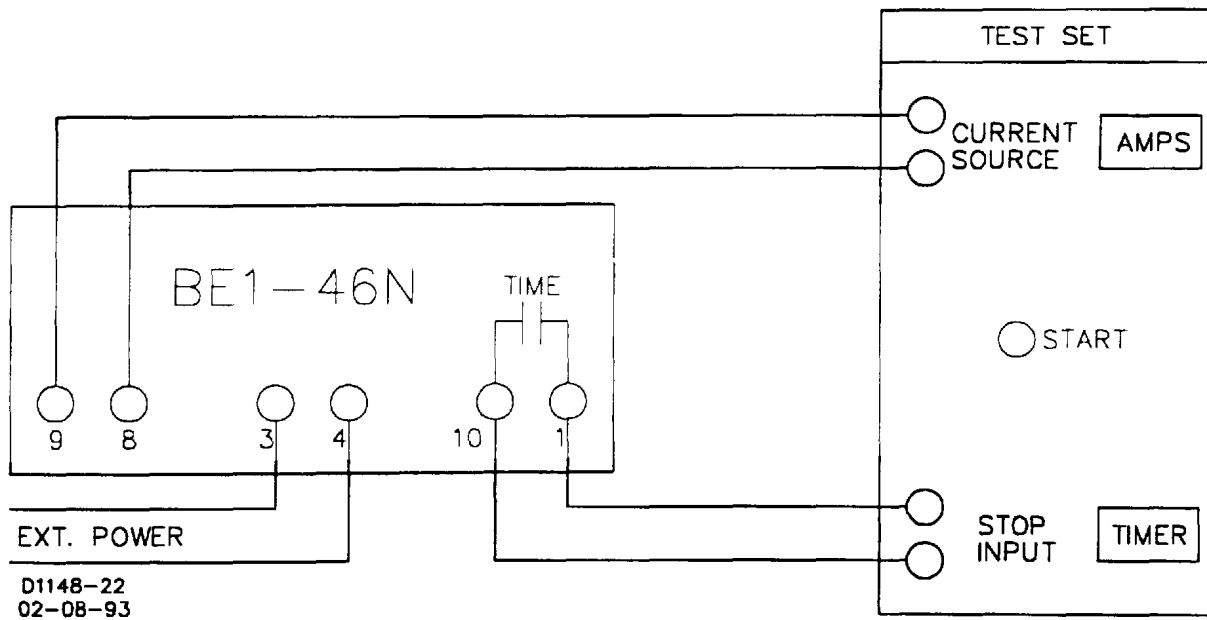

Figure 4-1. Test Setup Diagram
Step 1. Connect the test circuit as shown in the test setup diagram, Figure 4-1, set TAP ADJUST to A position, and the CAL control fully CW.
Step 1. Connect the test circuit shown in the test setup diagram, Figure 4-1, set the TAP ADJUST switch to A position, and CAL control fully CW.